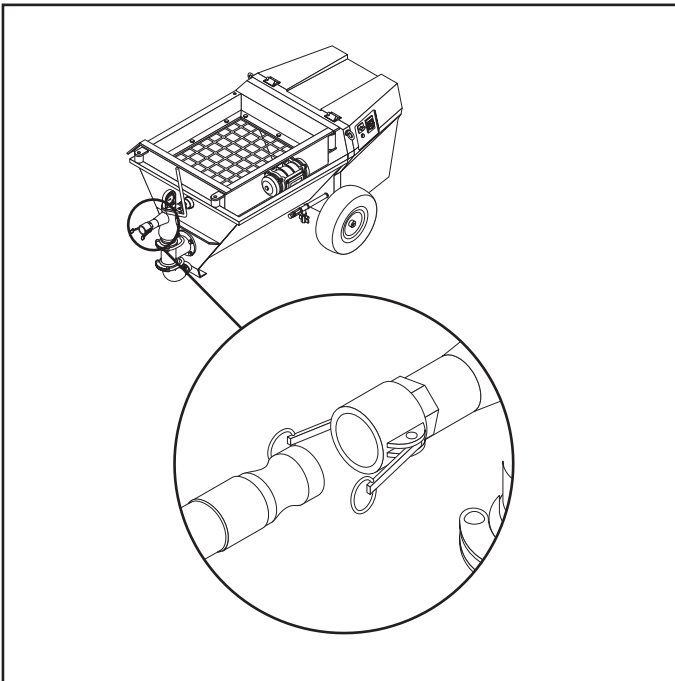

FIG.17
- Connect the piping to the flow valve body fitting (FIG.17).